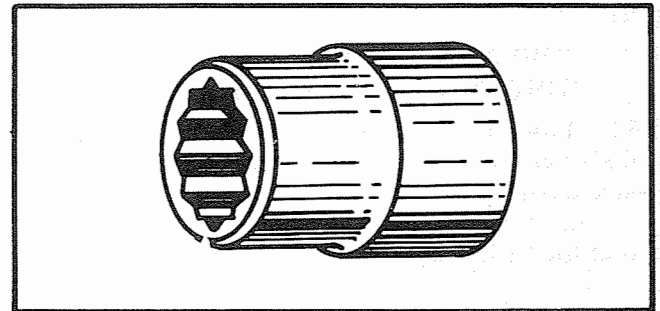

Figure 7-30. Oil Pressure Relief Valve Cap Socket Wrench
- a. Remove the pressure relief valve cap using wrench 802139. See figure 7-30.